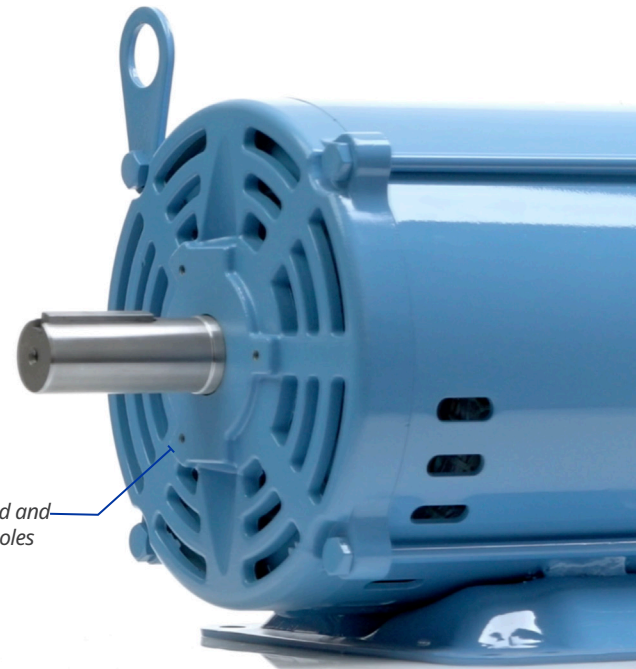

Figure 1
7. Install mounting clips onto grounding ring using the three (3) M3 screws, and then line up to pre-drilled and tapped holes (Fig. 1) on DE end bell.